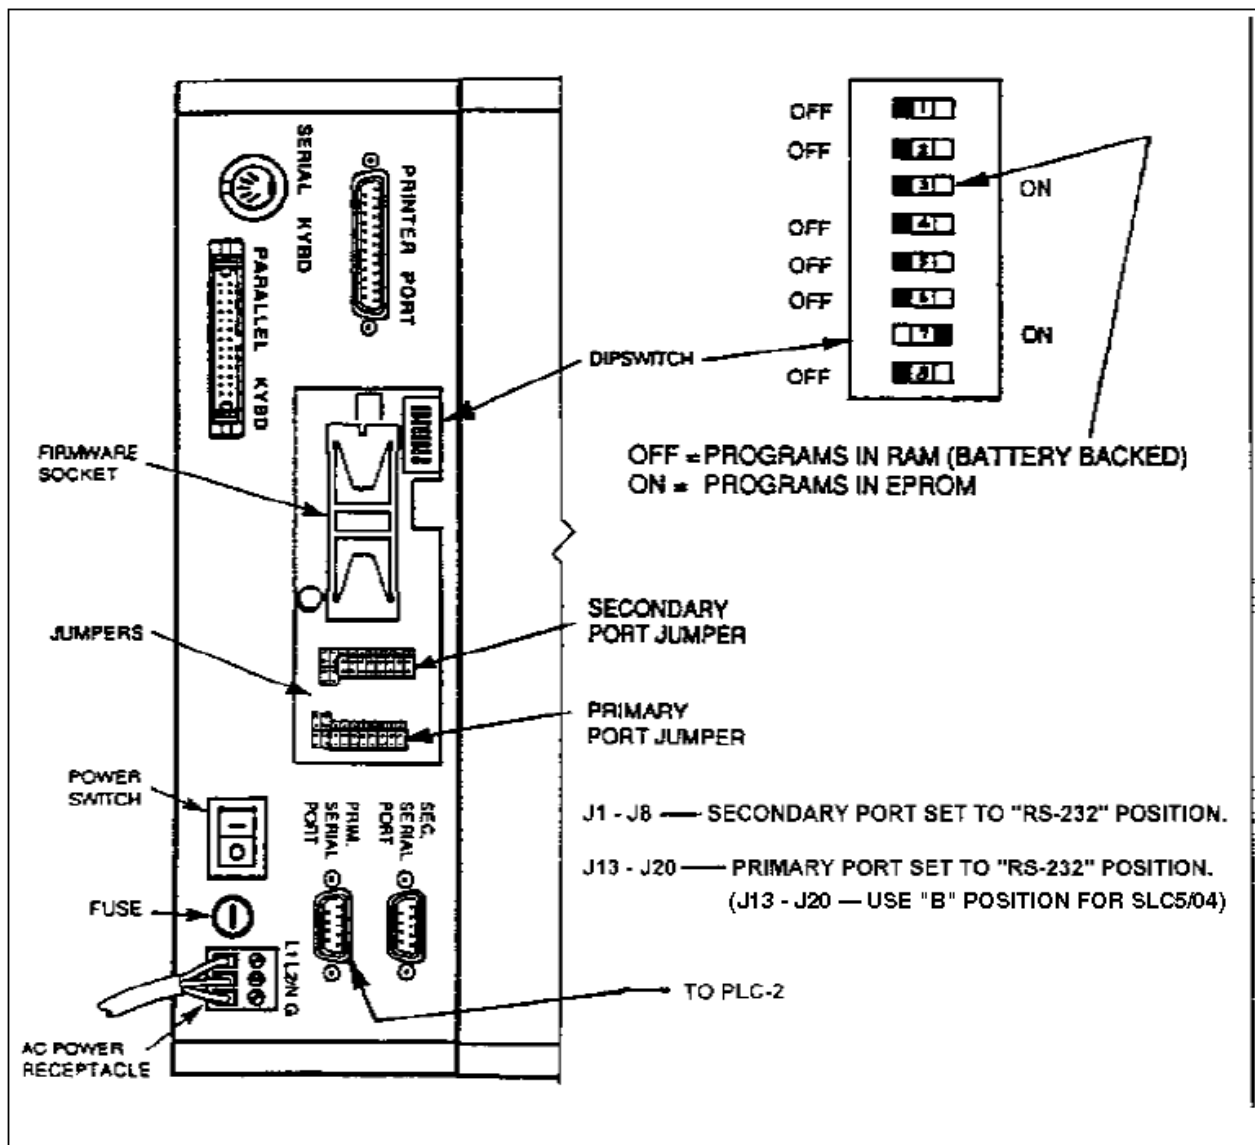

Figure 3
The Dip Switches and Port Jumpers must be set at shown in Figure 3.
6. Remove the firmware EPROM and insure it is VERSION 3 (See Figure 3). Replace with the correct version EPROM if necessary.
7. Place dip switch 3 in the on/closed position (See Figure 3).